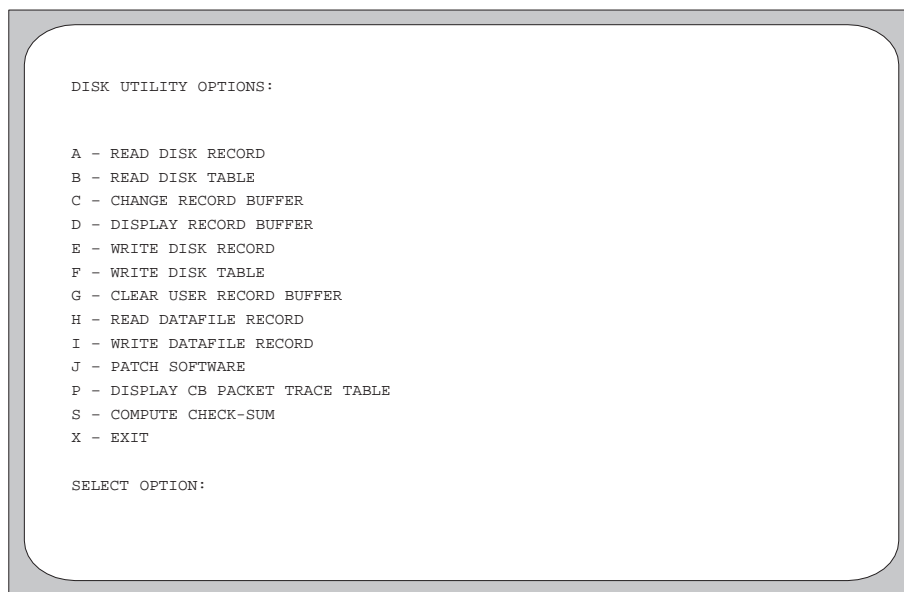

Figure A-47. Reformat Menu.
2. At the **ENTER BOOT COMMAND:** prompt, type **Ctrl+D**, then **D**. The DISK UTILITY OPTIONS: menu appears, as shown in Figure A-47. Refer to the following sections for details about each option.